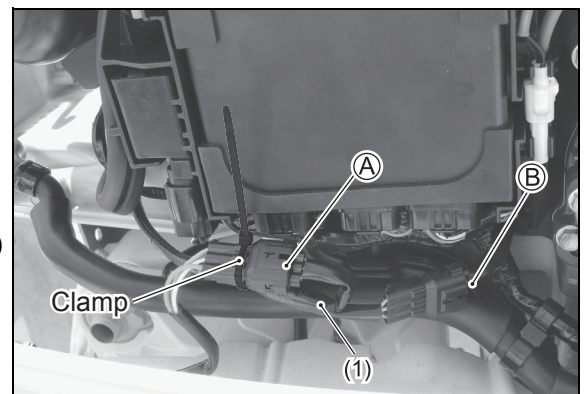
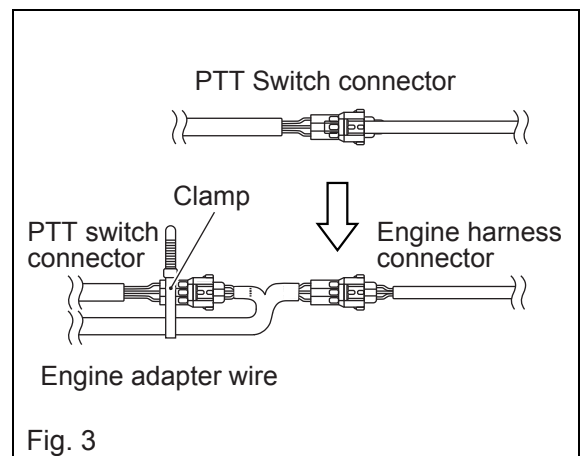

Fig. 2
Fig. 3
**Make sure that the engine adapter wire (1) does not interfere with the engine cover hook.**
5. Connect the engine adapter wire (1) to the PTT switch connector (A) and engine harness connector (B) as shown in Fig. 2 and Fig. 3.
- Use the clamp to tighten the PTT switch connector above the engine adapter wire (1) as shown in Fig. 2 so that the engine adapter wire (1) does not contact any other parts.